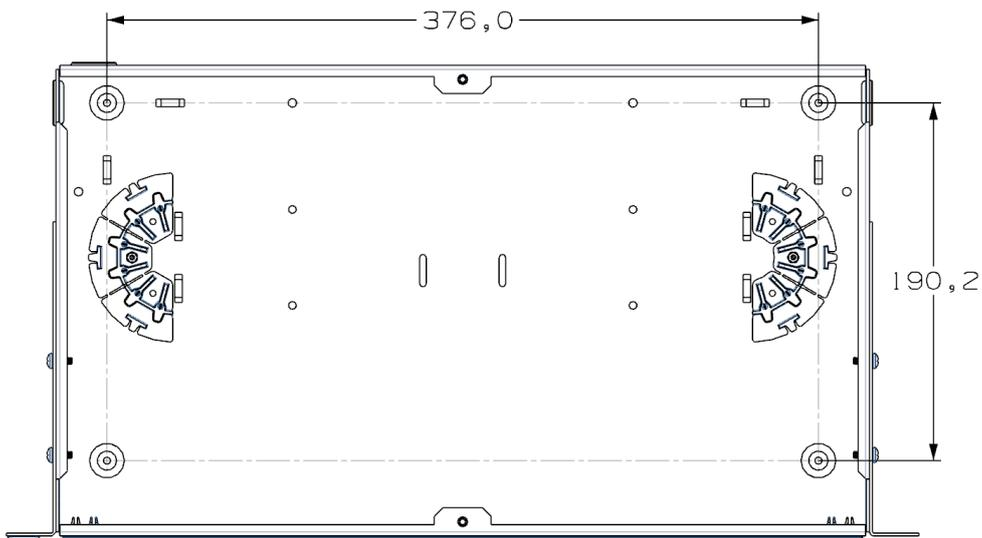

Fig.8
4.0 Wall mount application (Fig. 8):